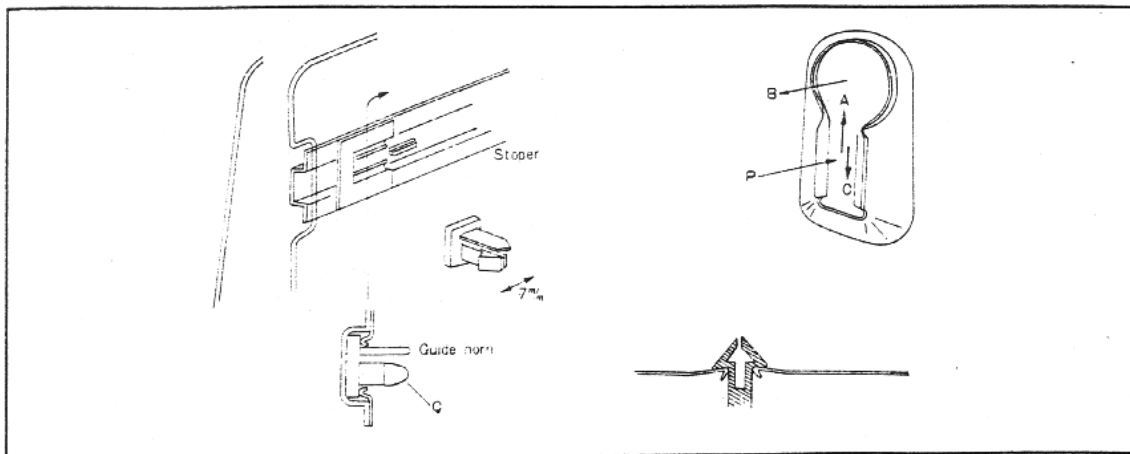

Fig. 14-46 Rear seat back
2. Push the rear seat back attaching fastener in P direction and press it down into the catch of the body as shown in Fig. 14-46.